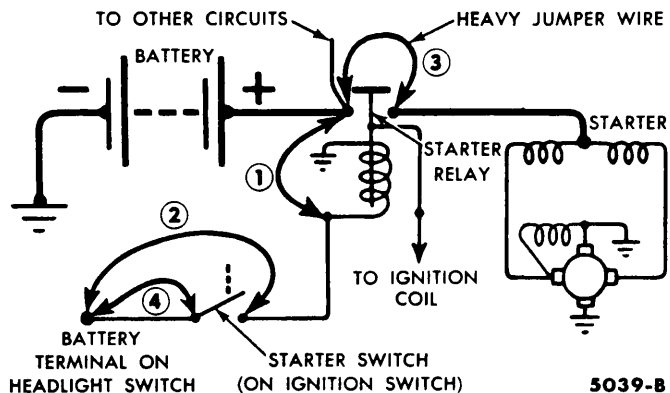

FIG. 5—Starting Circuit Test
Connect a jumper from the battery terminal of the relay to the ignition switch terminal of the relay, Fig. 5, connection marked ①. If the engine does not crank, the starter relay is probably at fault. If the engine cranks, connect a jumper from the battery terminal on the lighting switch to the (ST) starter relay terminal of the ignition switch, Fig. 5, connection marked ②. If the engine does not crank, the wire connecting the starter relay to the ignition switch, or the wiring connecting the battery to the lighting switch is defective. If the engine cranks, connect the jumper between the lighting switch battery terminal and the "AM" or "BAT" terminal of